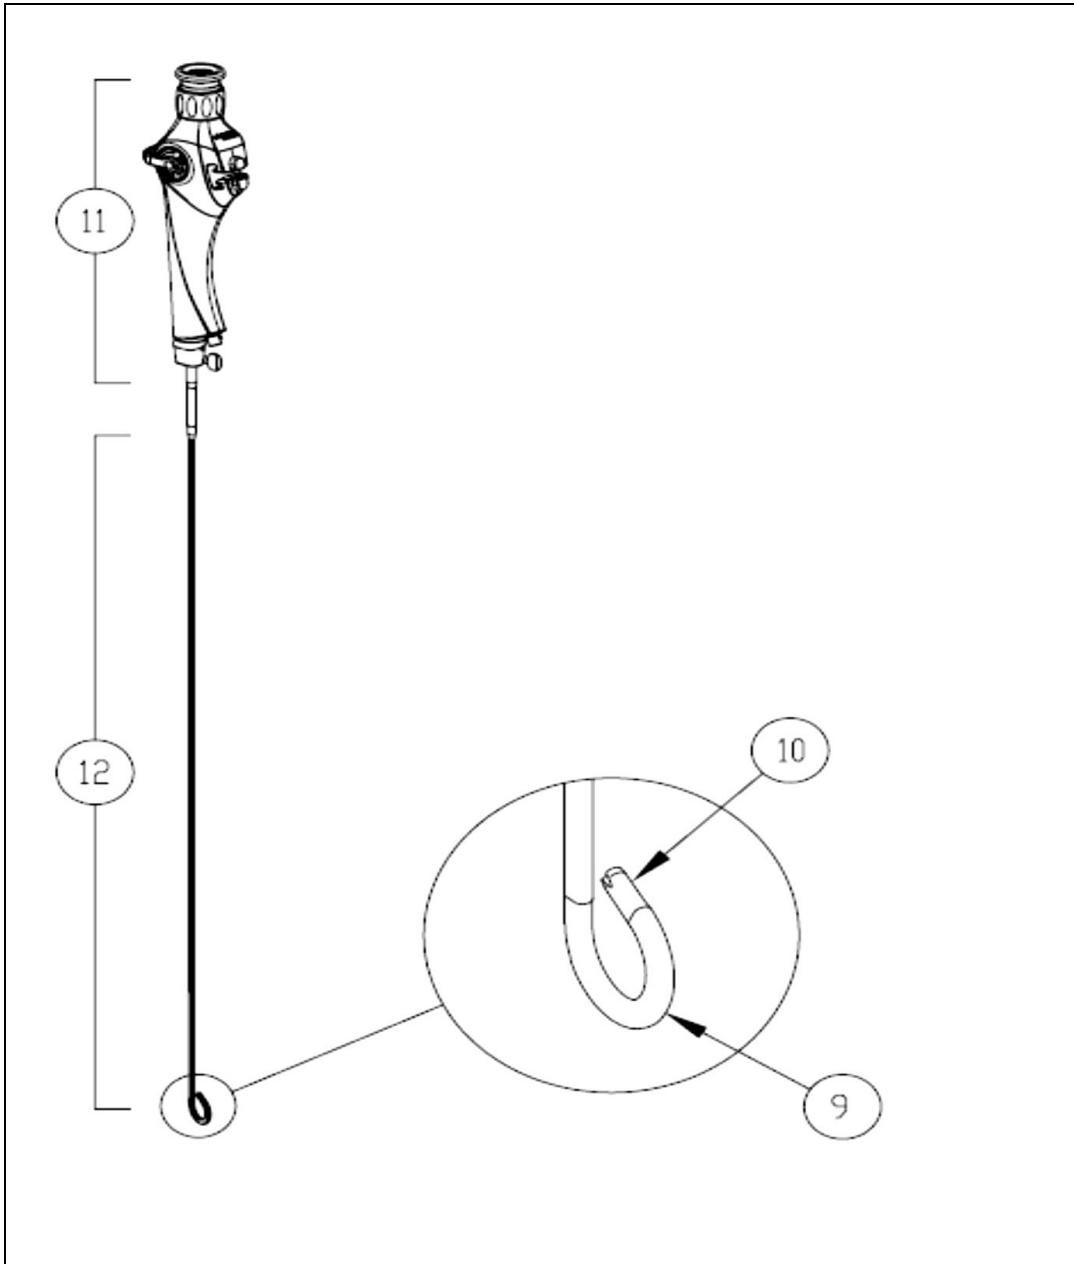

Figure 3-1: BRS-4000 Flexible Bronchoscope
- The **BRS-4000** Bronchoscope, which is shown in Figure 3-1 on page 11. The endoscope's Insertion Tube does not have a working channel. It contains the fiberoptic image and illumination bundles only.
04-4201	BRS-4000 Flexible Bronchoscope (Figure 3-1 and 3-2)
Endoscope and Control Body (Figures 3-1 and 3-2):